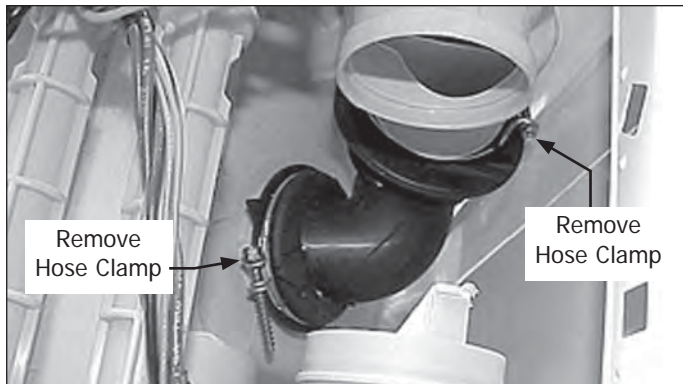

Figure 4-69.
3. Loosen the (2) clamps, one on each end, and slide the hose off. (See Figure 4-69)